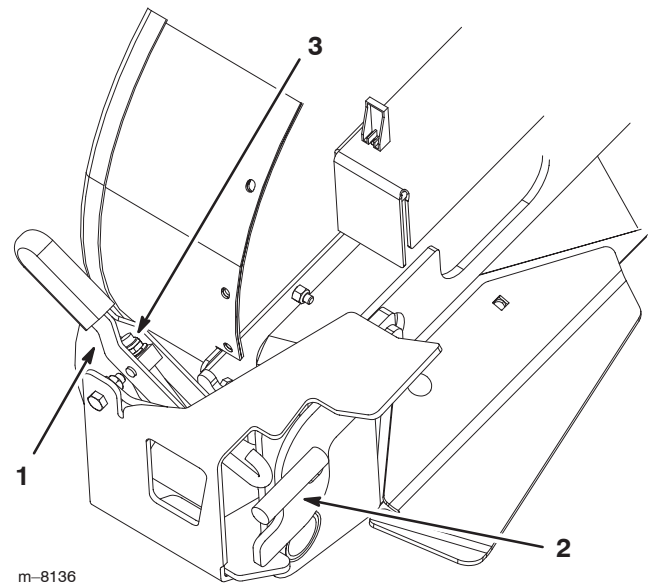

Figure 26
2. The blower latch must engage the front peg (Fig. 26). If it does not, proceed to step 3 and lengthen the latch.
3. To lengthen the latch turn the hex nut counterclockwise (Fig. 26).
4. To shorten the latch turn the hex nut clockwise (Fig. 26).